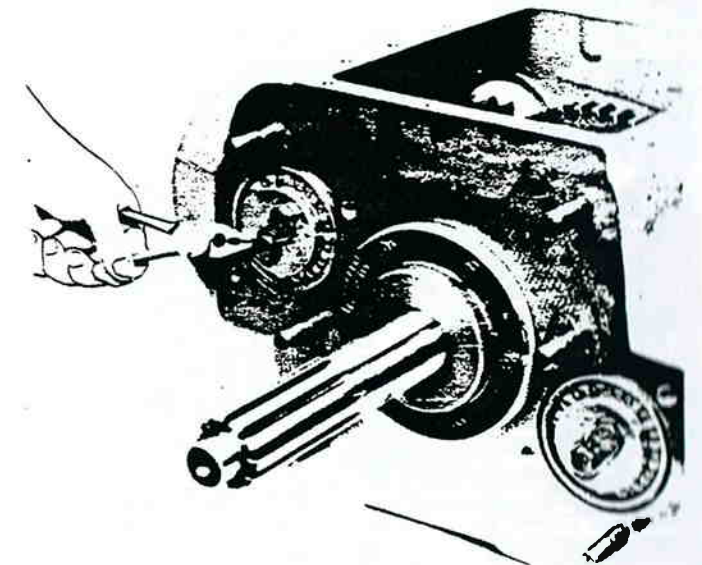

Figure 13-145. Installing Lockwires.
4. Install retainer plate, secure with capscrews, and lockwire. For models otherwise equipped with front bearing retaining snap ring in groove of countershaft, install snap ring (figure 13-145).